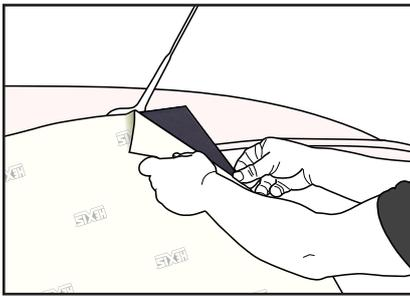

Figure 09
- › Start removing the paper liner from the compound, from the top centre of the compound as shown in the adjacent illustration. (FIG. 09)